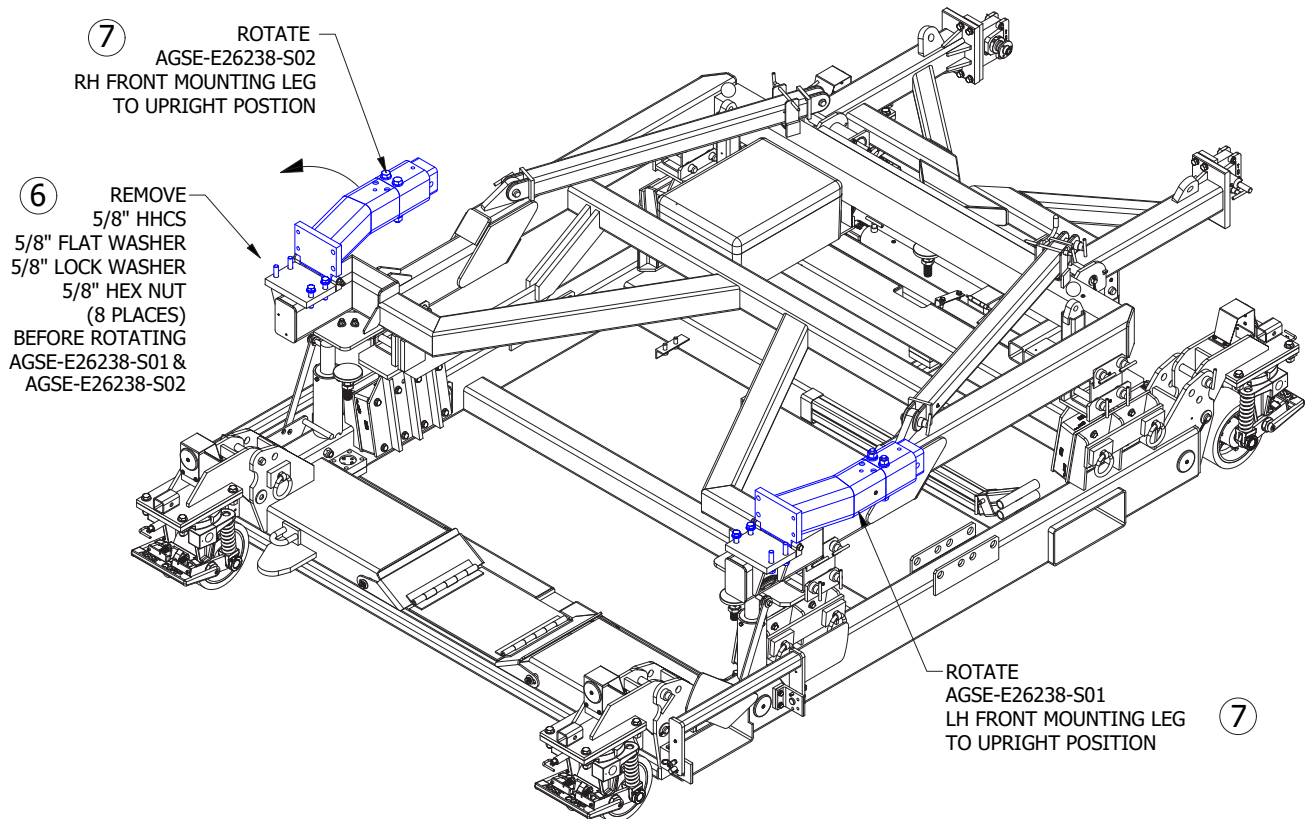

Figure 5.1-3
- 6) Remove eight (8) 5/8" hex head cap screws, eight (8) 5/8" flat washers, eight (8) 5/8" lock washers. (Illustration Figure 5.1-3).
- 7) Rotate AGSE-E26238-S01 LH front mounting leg and AGSE-E26238-S02 RH mounting leg to the upright position. (Illustration Figure 5.1-3).